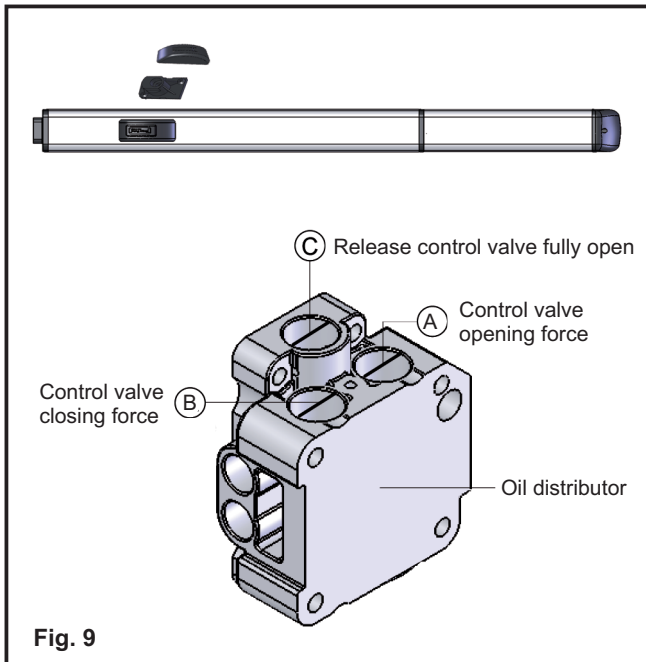

Fig. 9
**4.1. SETTING ANTI-TRAP (fig.9)**